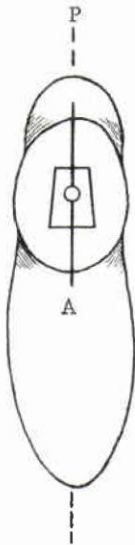

FIGURE 3
1. As illustrated in *Figure 3* draw line A-P which will serve as a reference line. Line A-P must bisect the wood keel bolt hole on the SACH foot and be perpendicular to the anterior edge of the top of the keel.